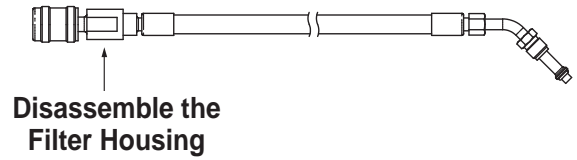

Figure 16
2. Disassemble the tank fill hose at the filter housing as shown in Figure 16.